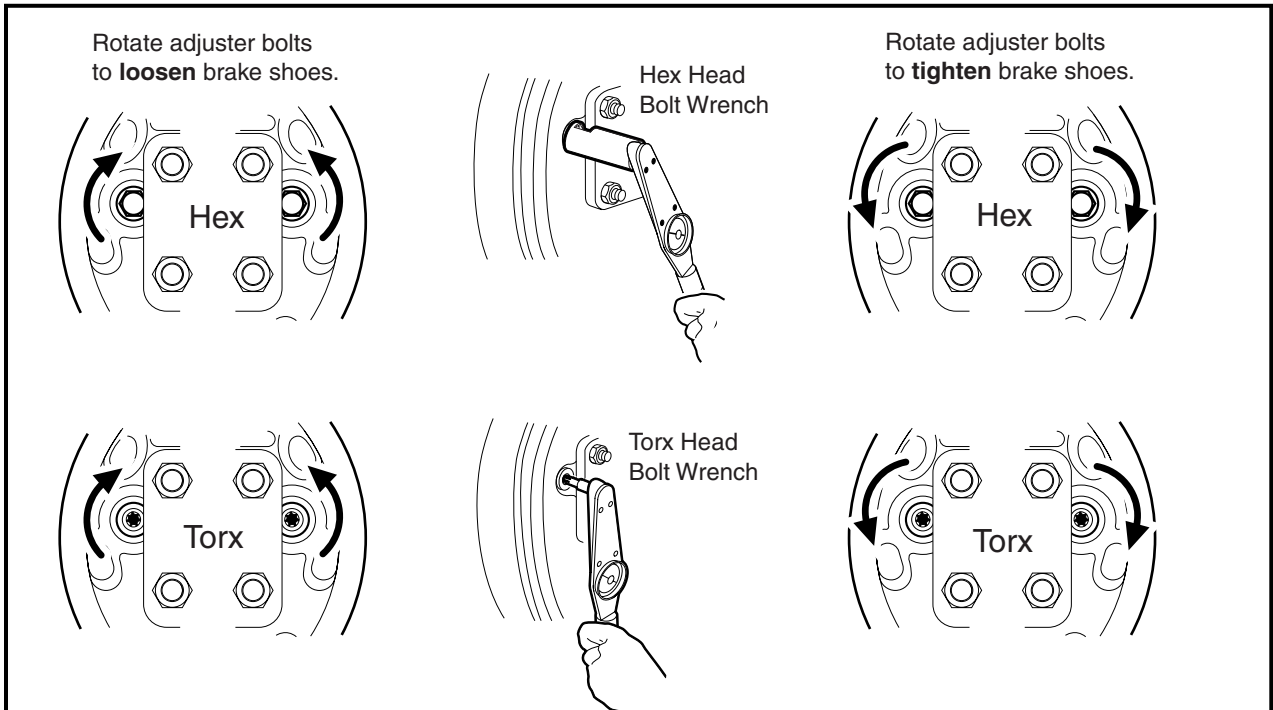

Figure 6-3 Loosen or Tighten Brake Adjusters
5.2. Use a torque wrench and a Torx #T-27 driver, or hydraulic brake adjuster (CCI P/N 102169401), and gently rotate the adjuster bolts to increase the clearance between the brake shoe lining and the brake drum (Figure 6-3, Page 6-7). See following NOTE.
- 5.2. Use a torque wrench and a Torx #T-27 driver, or hydraulic brake adjuster (CCI P/N 102169401), and gently rotate the adjuster bolts to increase the clearance between the brake shoe lining and the brake drum (**Figure 6-3, Page 6-7**). **See following NOTE.**